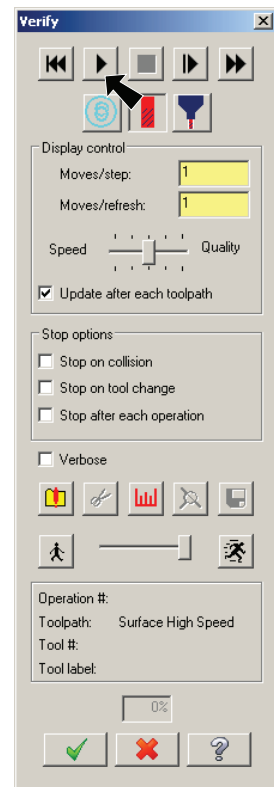

Fig. 41
Step 3. Click the **Play**  in the Verify dialog box to start the machining, **Fig. 41**.